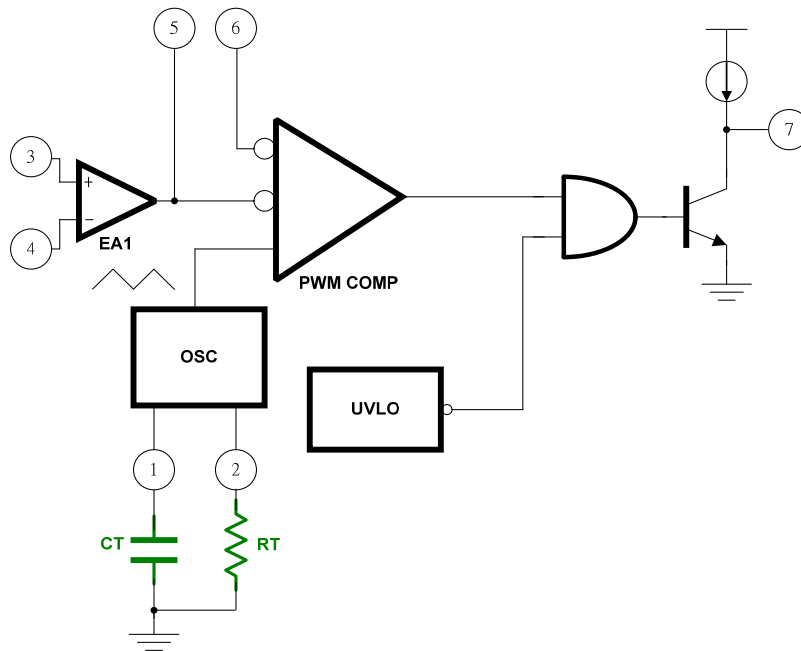
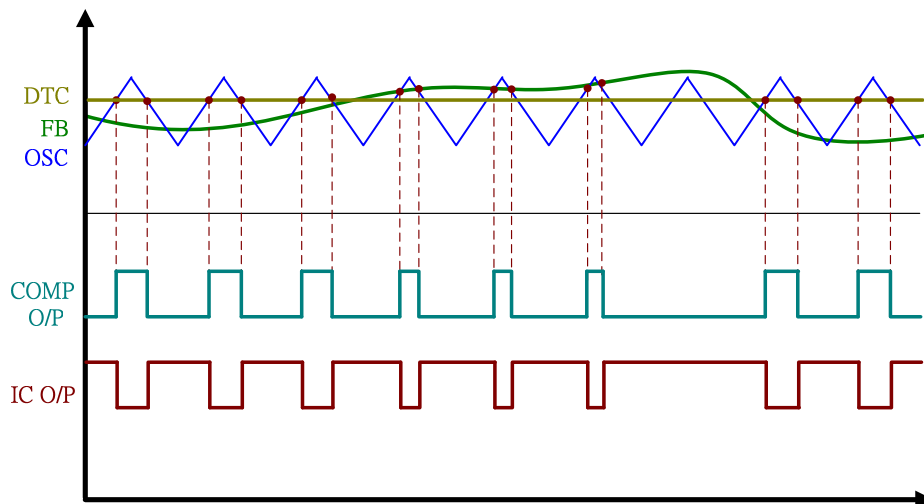

Figure 16 Oscillator / PWM Comparator with Frequency RC Circuits
Figure 17 FP5453 Timing Waveforms
The oscillator frequency can be adjusted from 20KHz to 1.2MHz by the capacitor (CT) and resistor (RT) which are connected to pin 1 and pin 2 of FP5453 respectively. A sawtooth waveform would compare with output signal of the error amplifier and duty control voltage. Figure 16 shows the relationship of oscillator, error amplifier and PWM comparator. Figure 17 shows the FP5453 pin waveforms.